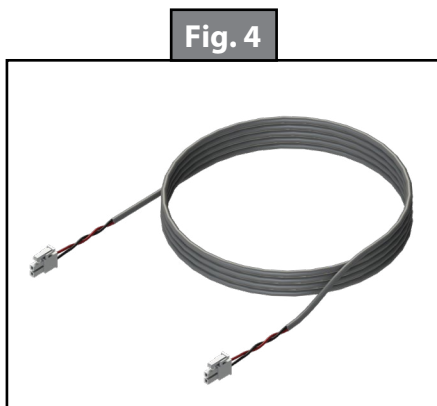
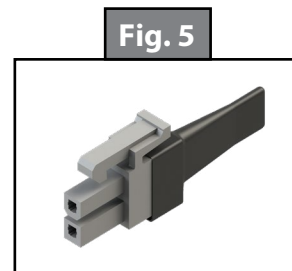

Fig. 4
Fig. 5
- A. The Unity X4 controller has two data cable (CAN) connection ports (Fig. 1E) that link each module in the Lippert Connect system together. Plug in the supplied 2-pin data cable (Fig. 4) to either connector and route it to the next module in the system. A terminating resistor (Fig. 5) must be placed in the other CAN connector of the Unity X4 controller if no other modules are used.